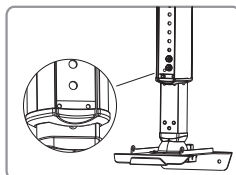
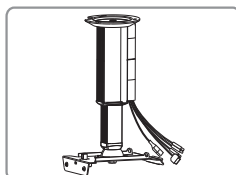

Figure 7
Figure 8
2. Open the back ornament board ③ b, and loosen the screws of subsidiary arm④ . Please adjust the subsidiary arm④ to your desired position (this function is only for B200、B300), and then fasten the screws again. Please hide the power line into the gap and close the back ornament board③ b. Figure 7 and Figure8.